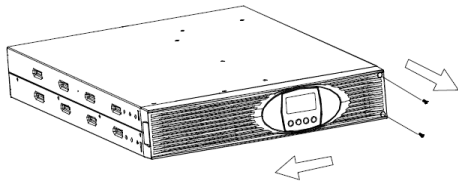

Figure 5: Removing the front cover
2. Remove the front cover (see Figure 5). First loosen both screws on the right side of the cover. Then push the cover to the left.